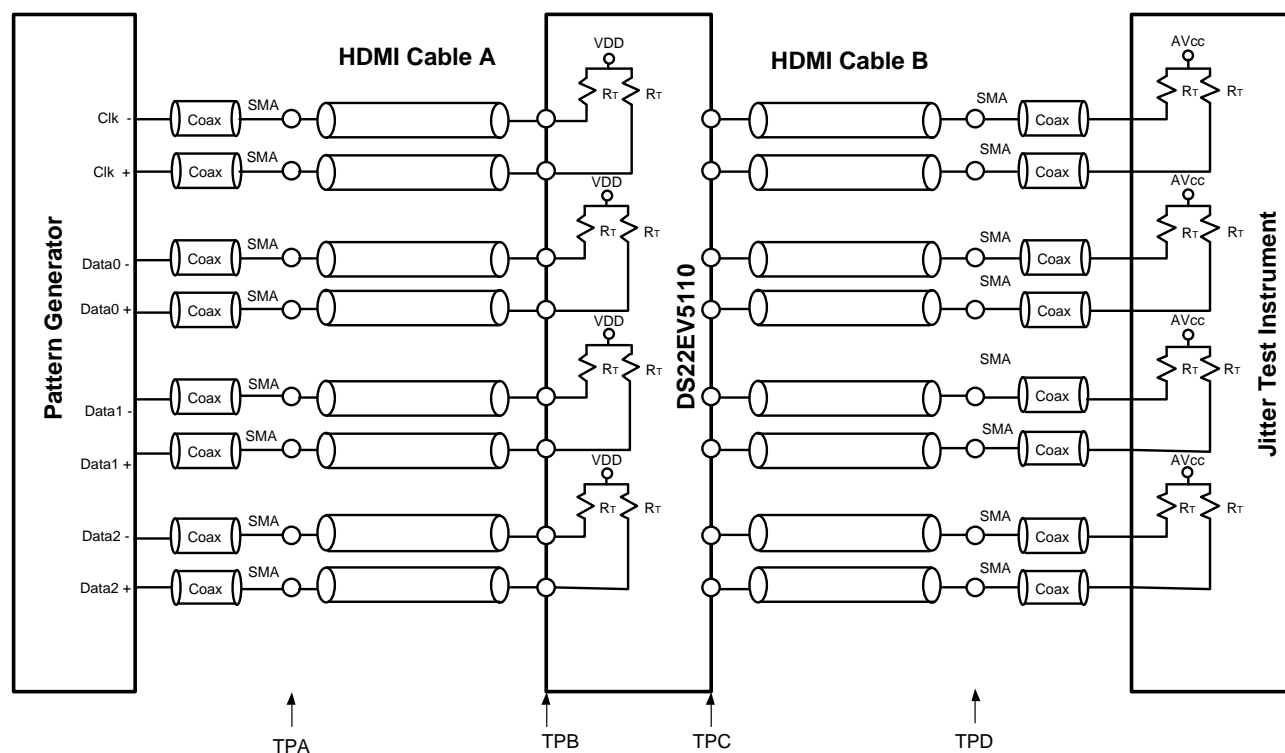

Figure 1. Test Setup Diagram
(3) Parameter is guaranteed by statistical analysis and/or design.
(4) Deterministic jitter is measured at the differential outputs (TPC of Figure 1), minus the deterministic jitter before the test channel (TPA of Figure 1). Random jitter is removed through the use of averaging or similar means.
(5) Total Jitter is defined as peak-to-peak deterministic jitter from + 12 times random jitter (ps).
(6) Random jitter contributed by the equalizer is defined as  $\text{sq rt}(J_{\text{OUT}}^2 - J_{\text{IN}}^2)$ .  $J_{\text{OUT}}$  is the random jitter at equalizer outputs in ps-rms, see TPC of Figure 1;  $J_{\text{IN}}$  is the random jitter at the input of the equalizer in ps-rms, see TPA of Figure 1.